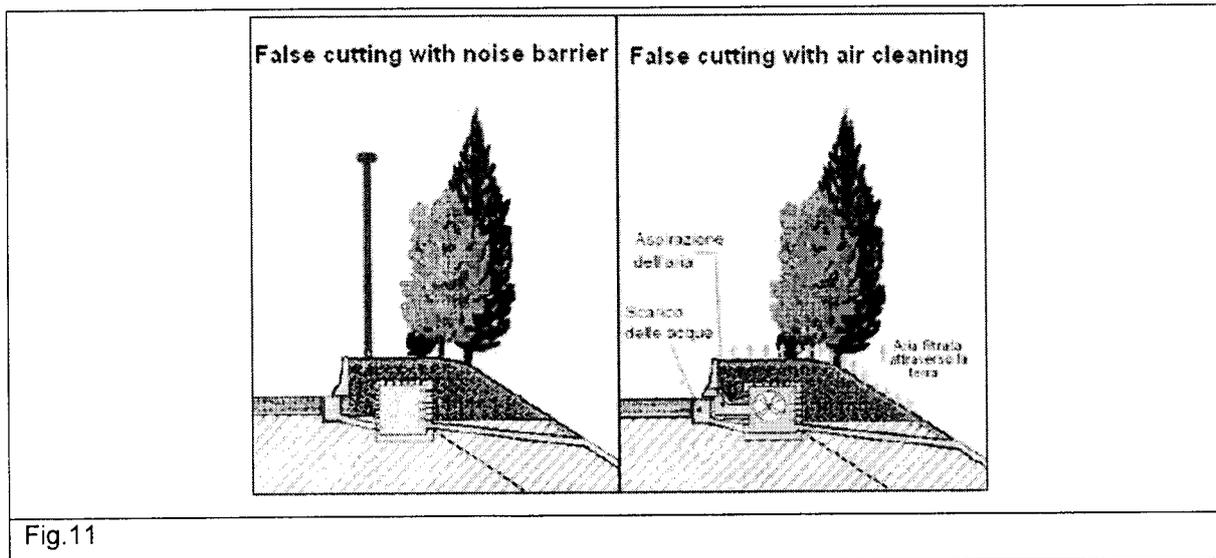

Fig.11
➤ Do you use solution in Fig.11 to drain water?
- Do/Would you use false cutting with noise barrier (Fig.11)?
- Do/Would you use solution in Fig.11 to clean air?